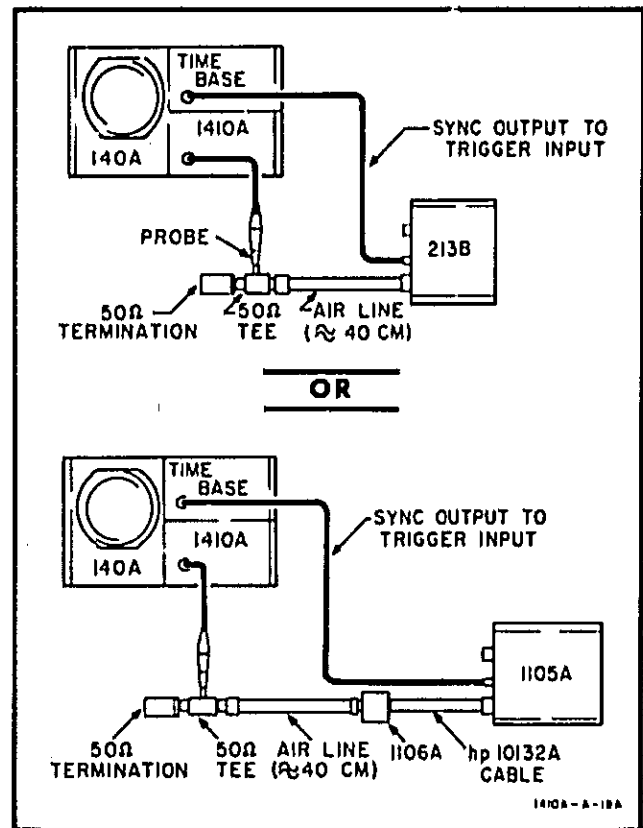

Figure 5-1. Setting Rise Time
- a. Connect a fast rise time Pulse Generator (hp Model 1105A/1106A or hp Model 213B) to Channel A as shown in Figure 5-1. Set Pulse Generator TRIGGER to + and OUTPUT to +.
- a. Connect the fast rise Pulse Generator through a 40 cm air line to a 50 ohm Tee, terminated into 50 ohms (see Figure 5-1). Insert probe into Tee. Free-run the time base and use the SYNC PULSE output to trigger the pulse generator.